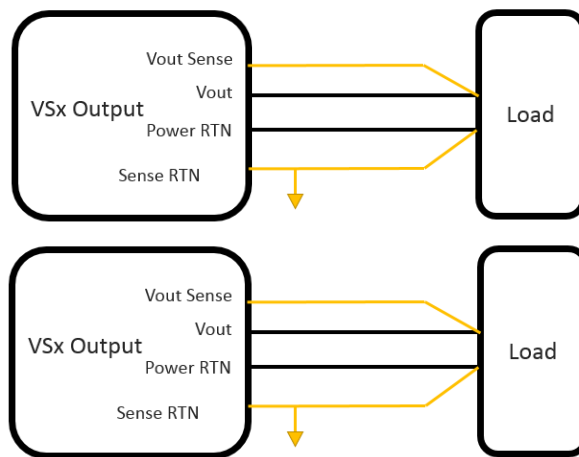

Figure 3: M4012 Sense line connection
*Sense Lines* are provided for VS1, VS2 and VS3 output to compensate line voltage drop. *Sense Lines* proper connection is shown in Figure 3.